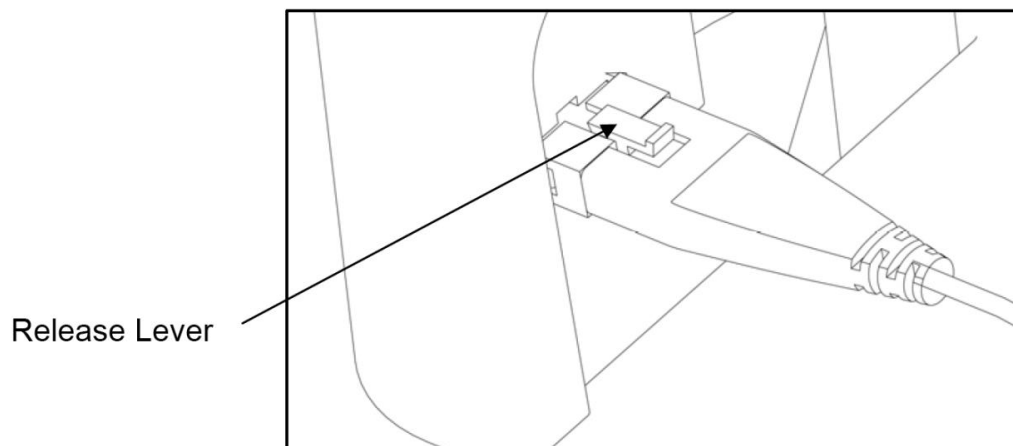

FIGURE 7: PLUGGING IN THE PROBE JUMPER CABLE
2. Check the bottom of the sled for features that will make it unusable in the machine. The bottom surface of the sled where it contacts the squaring plate must be flat and level for a width of at least 3/8 inches along the bottom edge to allow the Board Tracking Sensor to accurately calculate the position of the workpiece at all times (see Figure 7).